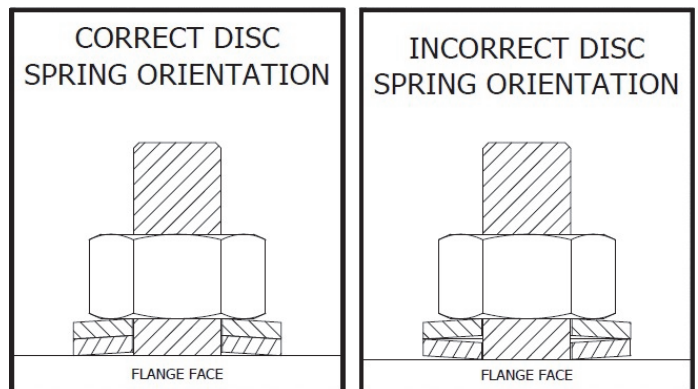

Figure 5
****IMPORTANT NOTE:** Each stud will have (2) Disc Springs on either side. These must be in Parallel according to Figure 5.